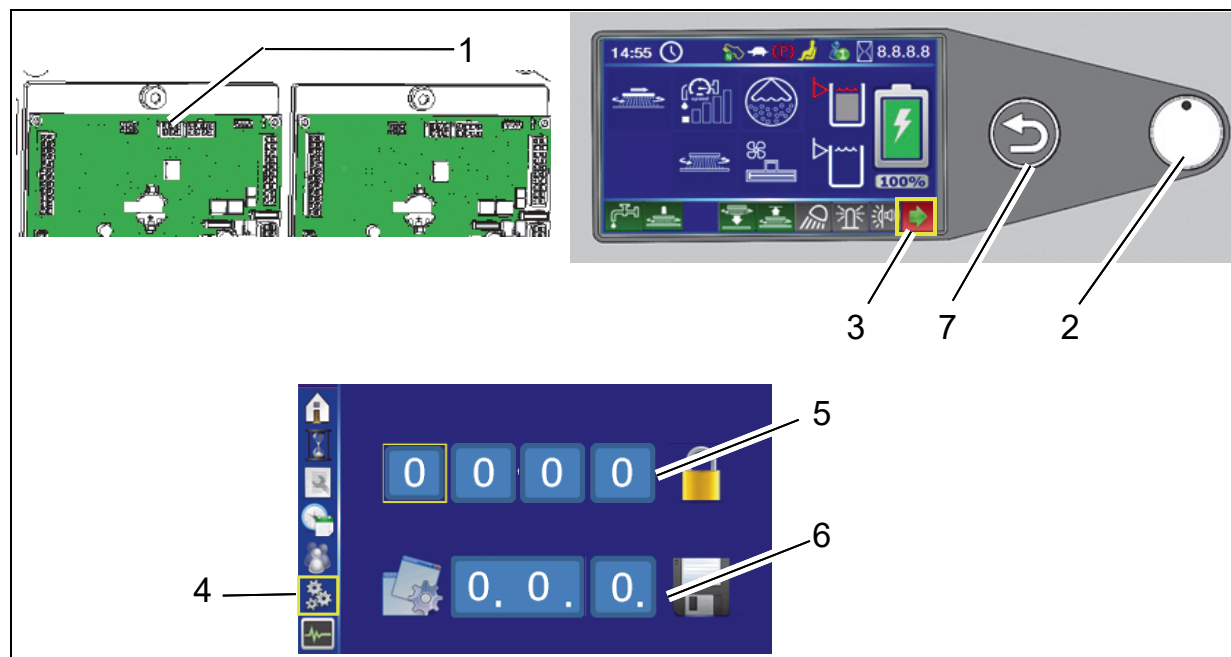

Fig. 4
Plug diagnostic connector into slot X20 of controller A1 (Fig. 4/1).
2. Select the arrow soft key (Fig. 4/3) on the control panel using the turn-push knob (Fig. 4/2) and press to access the sub-menu.
3. Select the configuration menu in the sub-menu (Fig. 4/4).
4. Enter the 4-digit code in the configuration menu at the top (Fig. 4/5):
In the configuration menu at the bottom (Fig. 4/6), set the value of the option and save by pressing the turn-push knob. After confirming the last digit, OK? appears. Press the turn-push knob again to save the value. Saved value is displayed in green.
If the value is not to be saved, exit menu using the return key (Fig. 4/7).